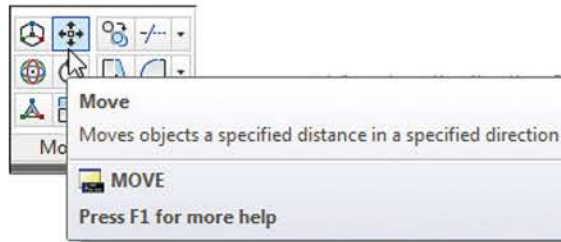

Fig. 6.21 The Move tool from the Home/Modify panel
2. Call **Move** – *click* the **Move** tool icon in the **Home/Modify** panel (Fig. 6.21), *pick* **Move** from the **Modify** drop-down menu,